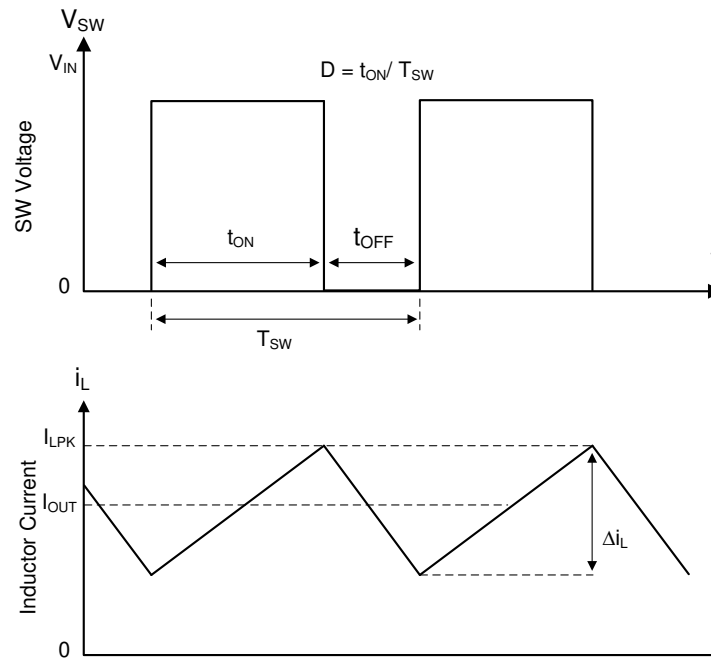

图 10. SW Node and Inductor Current Waveforms in Continuous Conduction Mode (CCM)
The following operation description of TPS560430-Q1 will refer to the Functional Block Diagram and to the waveforms in Figure 10. TPS560430-Q1 is a step-down synchronous buck converter with integrated high-side (HS) and low-side (LS) switches (synchronous rectifier). The TPS560430-Q1 supplies a regulated output voltage by turning on the high-side and low side NMOS switches with controlled duty cycle. During high-side switch ON time, the SW pin voltage swings up to approximately V_{IN} , and the inductor current i_L increases with linear slope $(V_{IN} - V_{OUT}) / L$. When the high-side switch is turned off by the control logic, the low-side switch is turned on after an anti-shoot-through dead time. Inductor current discharges through the low-side switch with a slope of $-V_{OUT} / L$. The control parameter of a buck converter is defined as Duty Cycle $D = t_{ON} / T_{SW}$, where t_{ON} is the high-side switch ON time and T_{SW} is the switching period. The converter control loop maintains a constant output voltage by adjusting the duty cycle D . In an idea Buck converter, where losses are ignored, D is proportional to the output voltage and inversely proportional to the input voltage: $D = V_{OUT} / V_{IN}$.